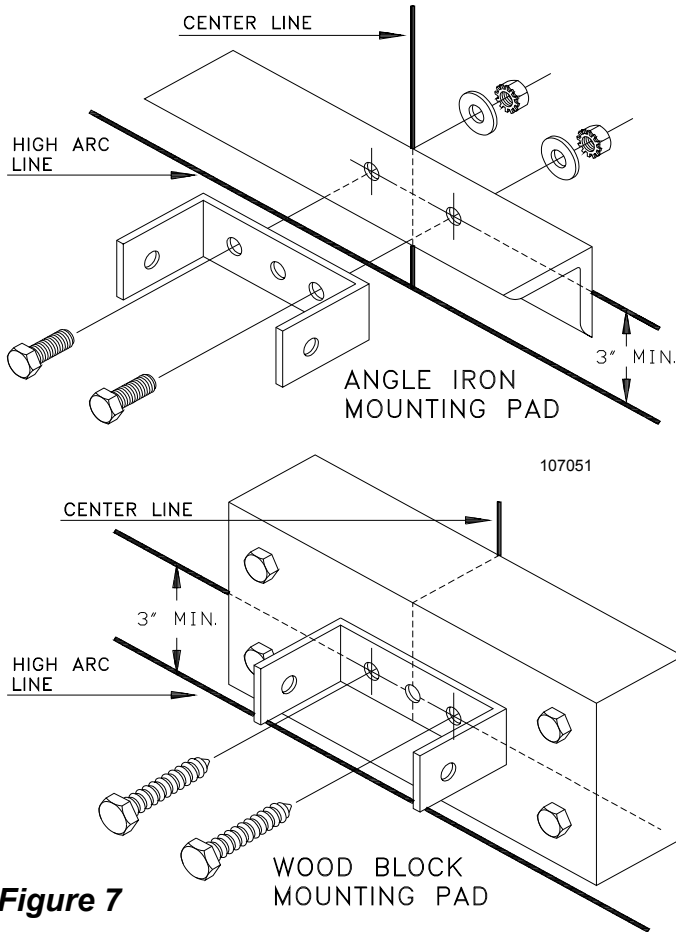

Figure 7
4) Mount the front mounting bracket (Item 9) to the mounting pad as shown in Figure 7. The location of the door's torsion shaft may prevent you from placing the mounting pad in the location shown. Mount the pad as close as possible to three (3) inches above the door's high arc point.